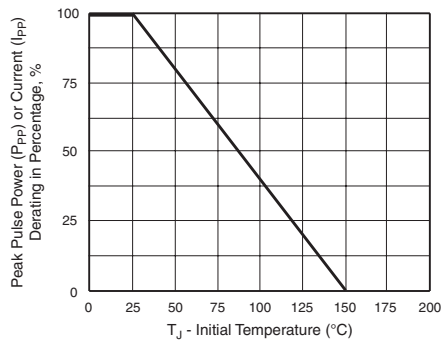
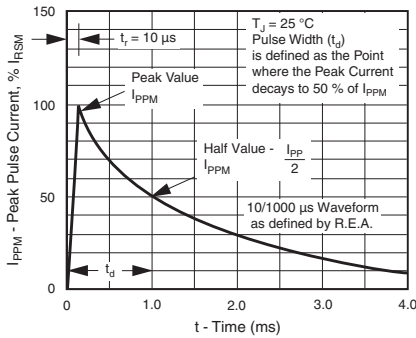

Figure 2. Pulse Power or Current vs. Initial Junction Temperature
Figure 3. Pulse Waveform
- (1) Pulse test: tp ≤ 50 ms
- (2) Surge current waveform per Fig. 3 and derate per Fig. 2
- (3) For bi-directional types having VWM of 10 V and less, the ID limit is doubled
- (4) All terms and symbols are consistent with ANSI/IEEE C62.35
- (5) For the bi-directional SMCJ5.0CA, the maximum VBR is 7.25 V
- (6) VF = 3.5 V at IF = 100 A (uni-directional only)